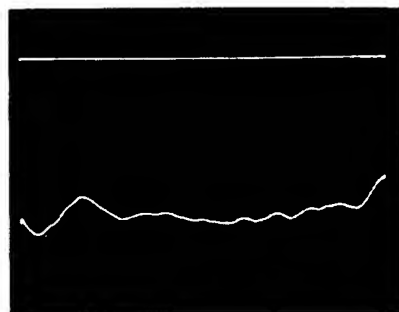

Figure 4-8. Typical Display
- h. Oscilloscope display should be similar to typical display shown in Figure 4-8.